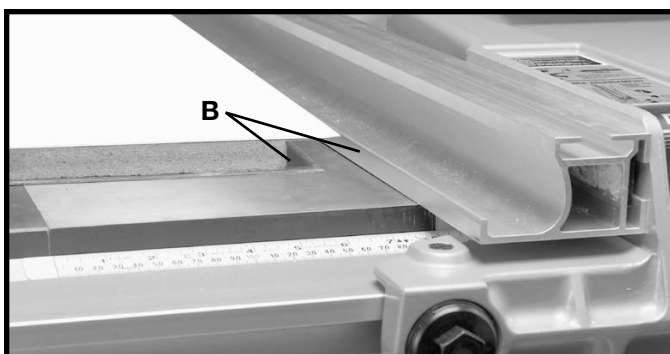

Fig. 100
When ripping material with a veneer facing and the material is not thick enough for the veneer to extend over the lip of the fence or if the veneer facing (B) is on both sides of the material, as shown in Fig. 100, the fence can be positioned slightly above the surface of the table. The veneer can be placed between the fence and the table or the veneer can straddle the fence with the material solidly against the fence, as shown.